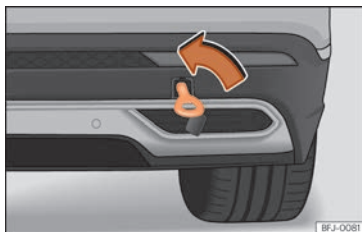

Fig. 51 On the right side of the rear bumper: towline anchorage in position.
- Screw the towline anchorage into the housing by turning it as far as it will go **anticlockwise** »» Fig. 51 »» ❶. Use a suitable object that can completely and securely tighten the towing eye in its housing.